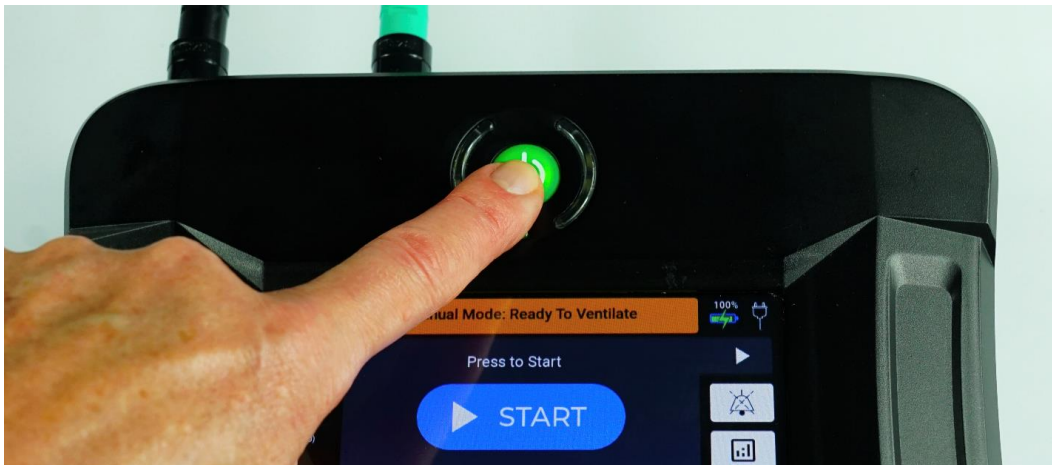

FIGURE 18: POWER ON
The ventilator can be powered on by pressing the On/Off Power Button located on the front of the device (See **Figure 18: Power On**). The device will proceed to perform an automated system pre-check of software to validate proper initialization of device software function (including controls, alarms, and ventilation). If the device successfully passes pre checks, the Operational Status bar will read: **Manual Mode: Ready to Ventilate**. If the screen does not display this message, the device has failed system prechecks. If the precheck fails, do not use device: provide alternative ventilation using backup source and have ventilator serviced.
2. Turn the ventilator on by pressing the On/Off Power Button as shown in **Figure 18: Power On**.